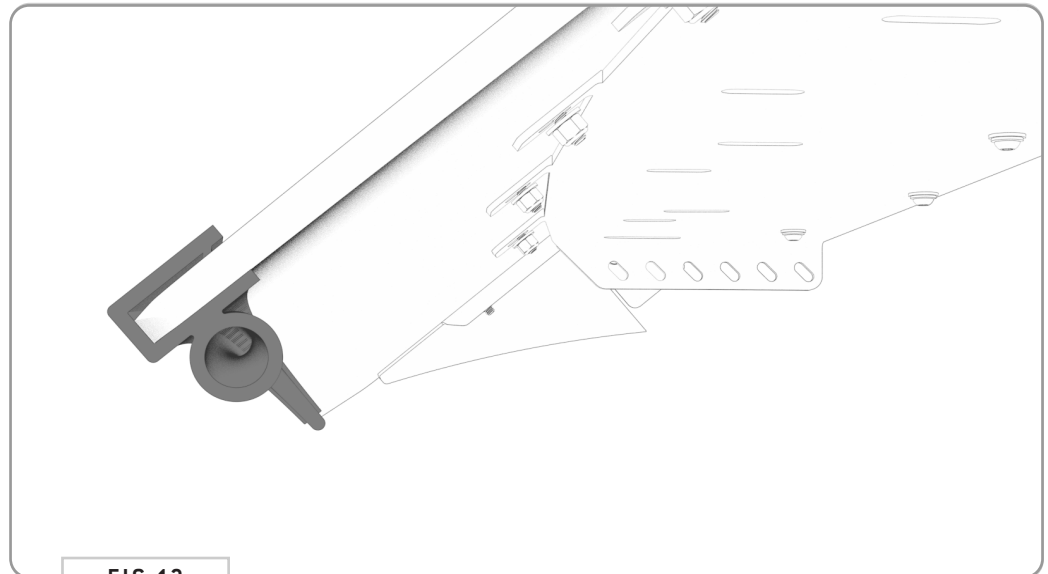

FIG 13
4.4 Fairing Gasket Trim: Attach the **Fairing Gasket Trim** to the **Front Fairing** in the orientation shown in **FIG 13**. Make sure the "bulbed" side is facing inward.